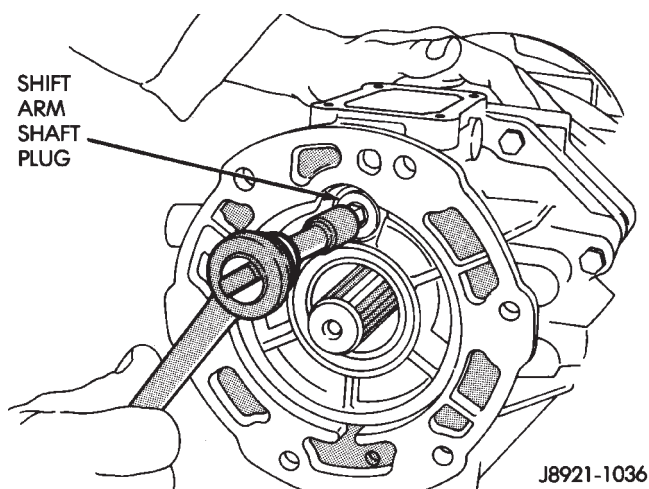

Fig. 6 Removing/Installing Shift Lever Shaft Plug
- (7) Remove shift arm shaft plug (Fig. 6).